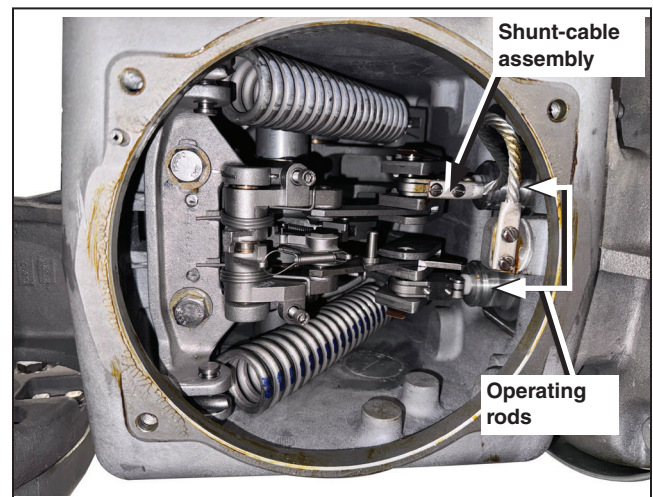

Figure 7. Disconnecting the shunt-cable assembly from the operating rods.
STEP 6. Disconnect the shunt-cable assembly from the interrupting-contact operating rod by removing the two 10-32 slotted-head machine screws fastening it to the rod. See Figure 7. Discard these screws.
STEP 8. Disconnect the existing shunt-cable assembly by removing the two 10–32 slotted-head machine screws fastening it to the brain housing. See Figure 7 on page 11. Discard the shunt-cable assembly and the screws.
Connect one end of the new shunt-cable assembly to the interrupting-contact operating rod using the new self-locking 10–32 slotted-head machine screws furnished. Then, apply Penetrox A or other suitable aluminum connector compound to the other end of the new shunt-cable assembly and connect this end to the brain housing using the new self-locking 10–32 slotted-head machine screws furnished. The new cable must be routed in the same manner the existing cable was routed, as shown in Figure 7 on page 11.